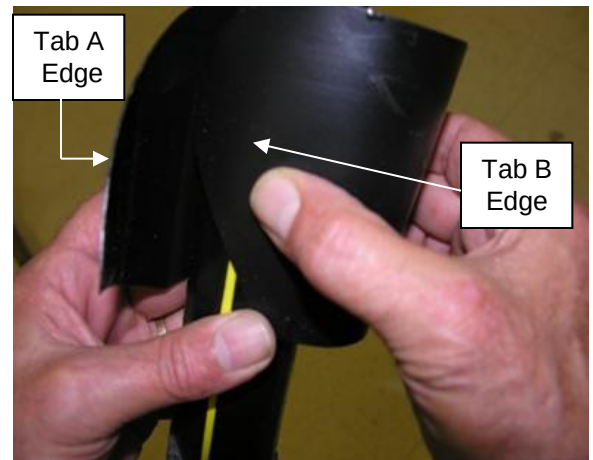

Figure 14
12.2 Hold Tab A edge in place and wrap Container around jacket. Insert Tab B edge under Tab A edge to form a cone-shaped enclosure around tube cable. See Fig. 14.